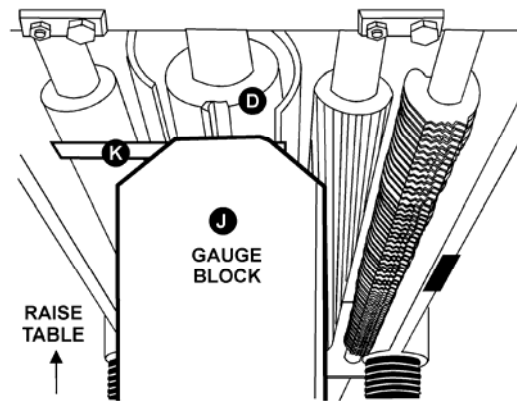

Figure 26
3. Place the gauge block (J, Fig. 26) on the table directly underneath the cutterhead (D, Fig. 26). Using a 0.02" (0.5mm) feeler gauge (K, Fig. 26) placed on top of the gauge block, raise the working table until the knife just touches the feeler gauge when the knife is at its lowest point. Do not move the working table any further until the outfeed roller is adjusted.